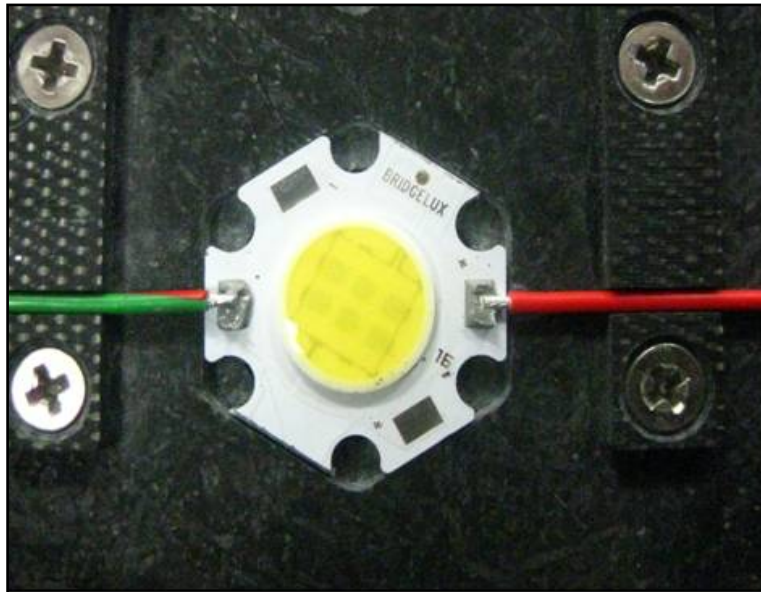

Figure 10: Solder reflow fixture close-up with Star LED Array and wire
3. Ensure that the wire is lying flat on the bottom fixture plate and that the wire tip is flat and centered on the solder pad (Figures 10 and 11).